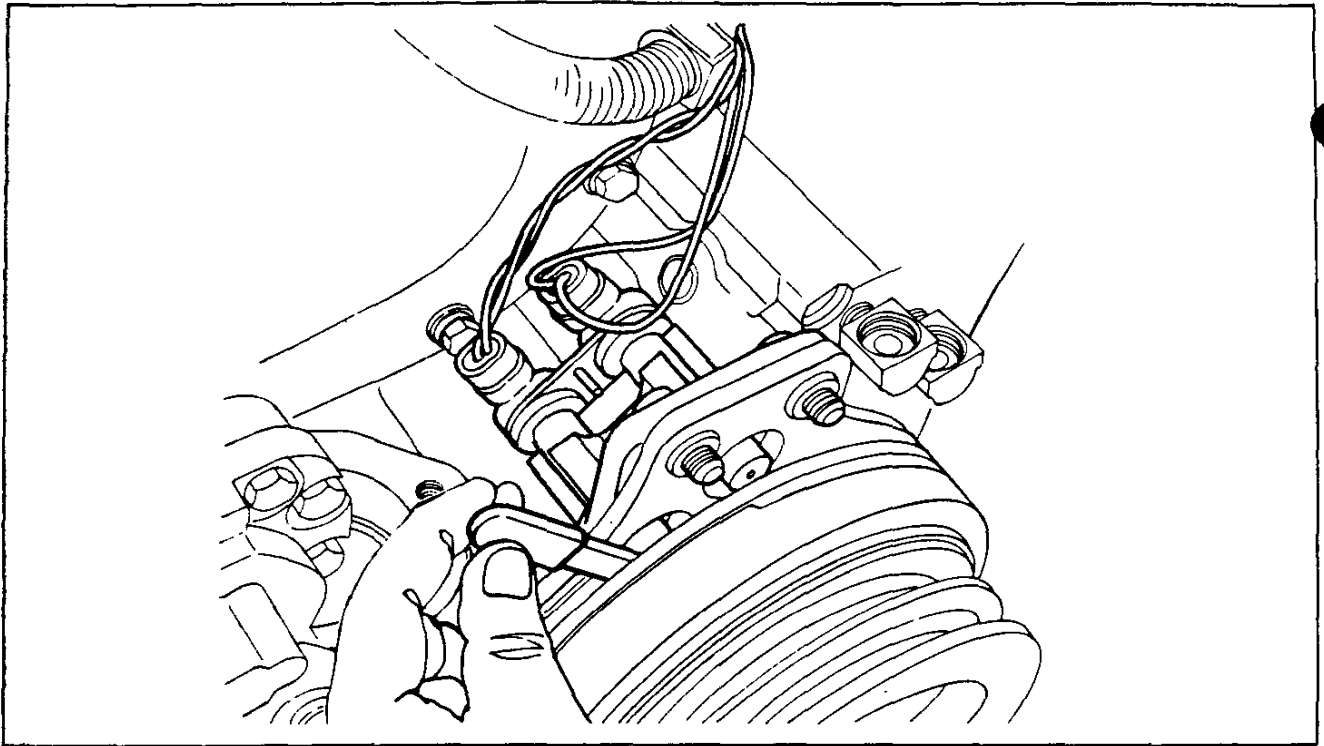

Figure 14
2. Insert the SRS/TRS Timing Tool between the double teeth on the Pulse Wheel, and the TRS so that the groove at the rear of the tool slides over the teeth in the Pulse Wheel as shown in Figure 14.